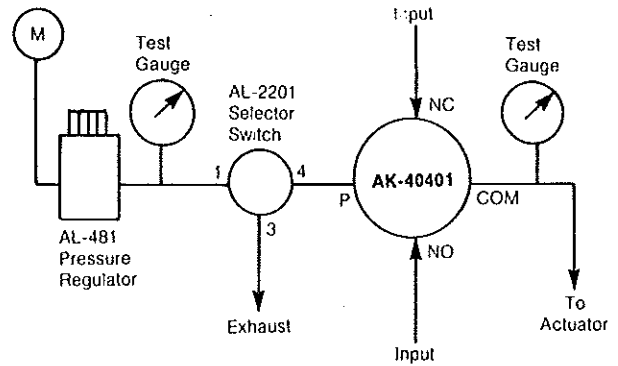

Figure 5. Typical Adjustment Piping
ADJUSTMENTS (See Figure 5)
1. Connect inputs to P, NC and NO ports of the AK-40401 (see Figure 5). Connect the output to COM port of the AK-40401.